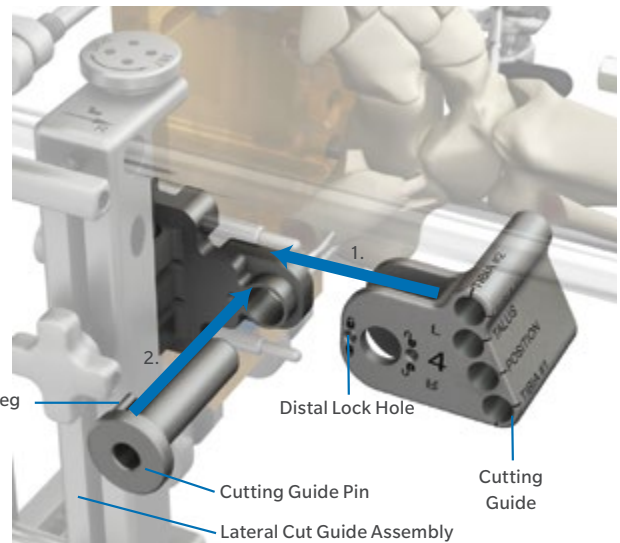

Fig. 33
- Insert the peg on the Cutting Guide Pin into the distal lock hole on the Cutting Guide (Fig. 33).